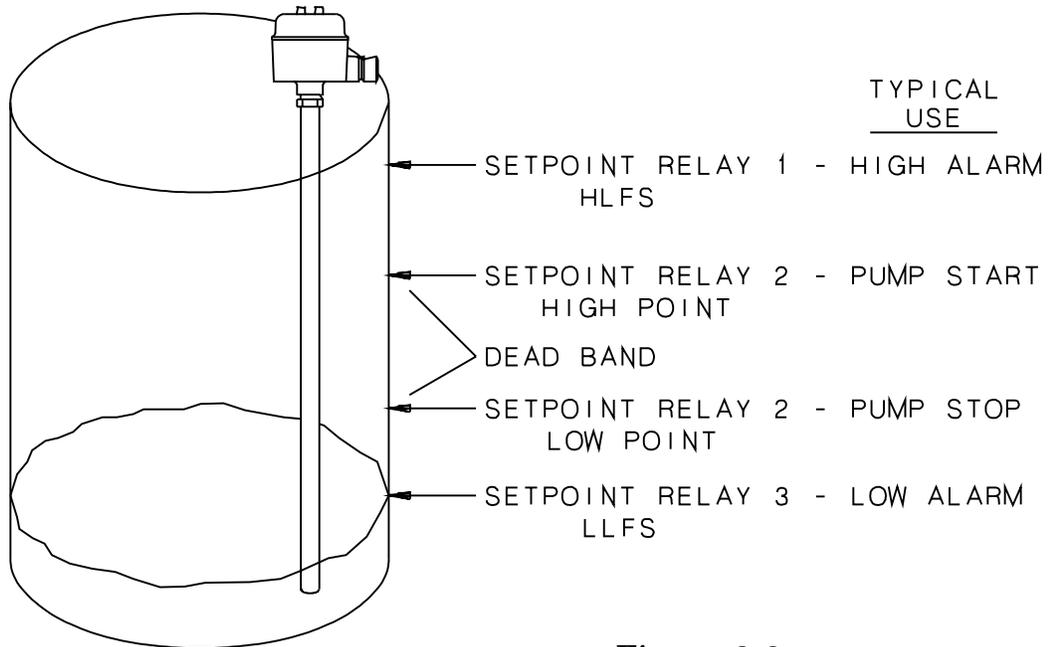

Figure 3-8
16. Adjust the *Setpoint* pot for Relay 3 (turning clockwise) until the LED changes state. See Figure 3-8.